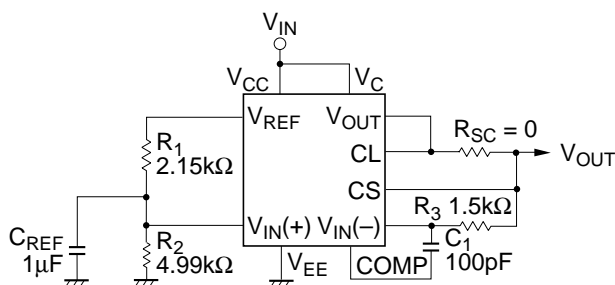

Figure 1 Low Voltage (2 to 7 V) Regulator
**Low Voltage (2 to 7 V) Regulator:** Figure 1 shows the construction of a basic low voltage regulator. The divider (resistors  $R_1$  and  $R_2$ ) from  $V_{REF}$  makes the reference voltage, which will be provided to the noninverted input of the error amplifier, less than output voltage. In the fixed voltage source where the output voltage will be fed back to the error amplifier directly as shown in figure 1. Output voltage will be divided  $V_{REF}$  since the output voltage is equal to the reference voltage.